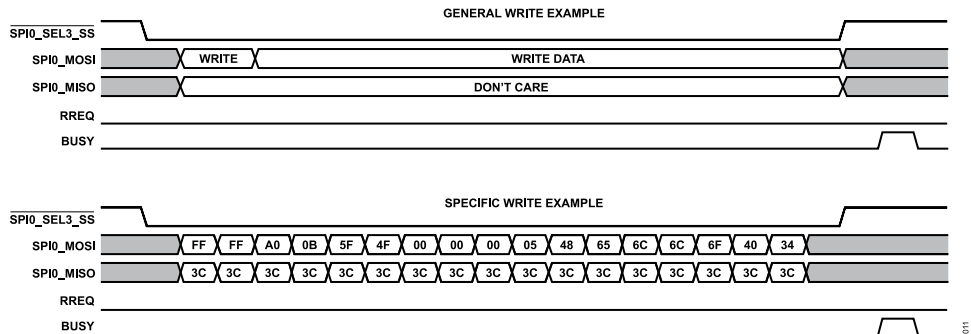
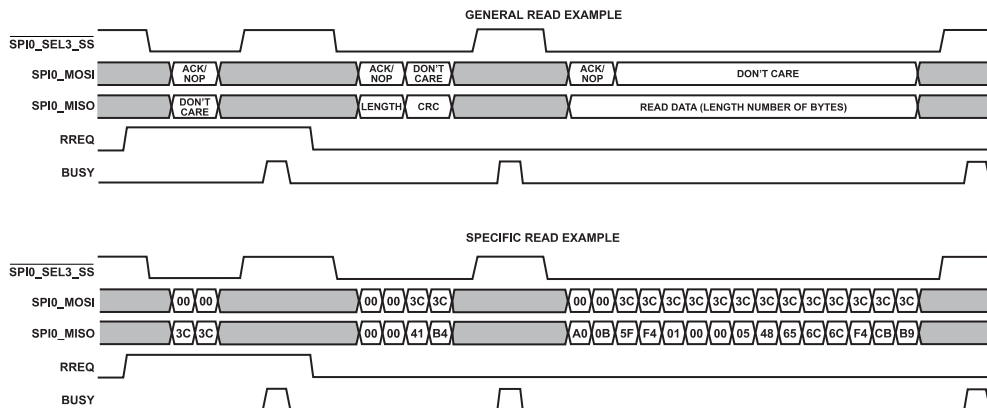

Figure 10. General and Specific SPI Write Example
Figure 11. General and Specific SPI Read Example
- ▶ Figure 11 shows the multitransaction read operation sequence in detail.
An example of a write transaction and a read transaction with actual data is shown in Figure 10 and Figure 11, respectively. The transaction is an NI_Discover message with the UI_EchoReq and UI_EchoRes message, which is detailed in the code for the ni-api-srv found in the NI-Example-App workspace in the Developer Portal.